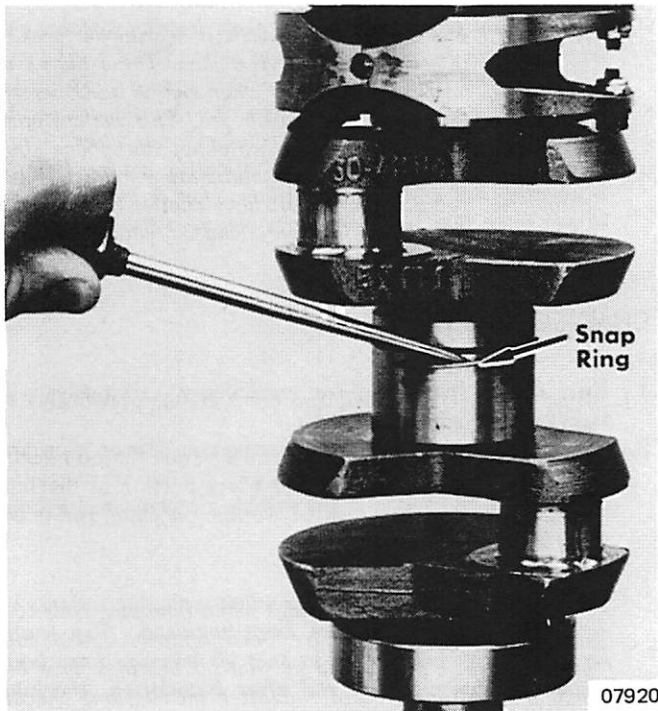

Figure 5. Removing Center Main Roller Bearing
10. Remove snap ring from main bearings and remove bearing outer race and bearings. (Figure 5)